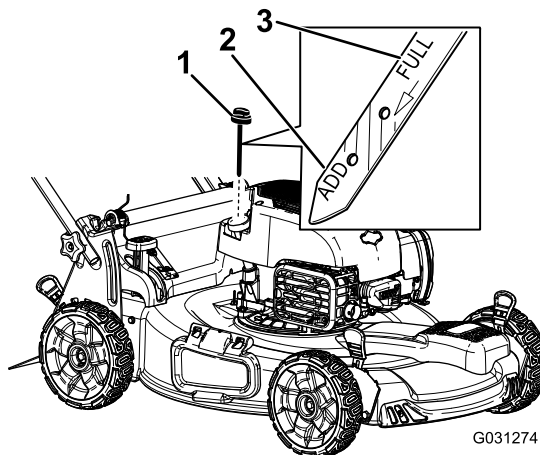

Figure 14
- Remove the dipstick by rotating the cap counterclockwise and pulling it out (Figure 14).
- Read the oil level on the dipstick (Figure 14).